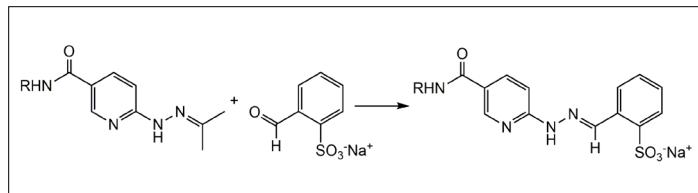

Figure 2: Colorimetric reaction used to quantify number of HyNic moieties on a biomolecule.
1. The molar substitution ratio (MSR) can be determined using a colorimetric reaction outlined in Figure 2. Addition of 2-sulfonylbenzaldehyde to a HyNic-modified biomolecule yields a bis-aryl hydrazone that absorbs at 350 nm. Refer to the HyNic-Protein MSR Calculator as well as the protocol that is appropriate for your lab equipment: HyNic Protein MSR Instructions.